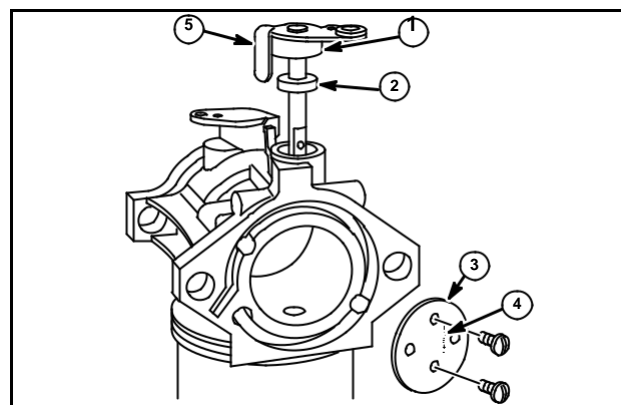

Fig. 115
1. Install throttle shaft seal (2) with sealing lip down in carburetor body until top of seal is flush with top of carburetor (LMT), Fig. 115.
2. Install throttle shaft and small foam washer (1).
4. Lay throttle plate (3) on shaft with numbers (4) facing out and install screw (LMS).
5. Lay throttle plate on shaft with numbers (4) toward idle mixture screw and dimples facing in, resting on edge of shaft. Install two screws (LMT shown), Fig. 115.